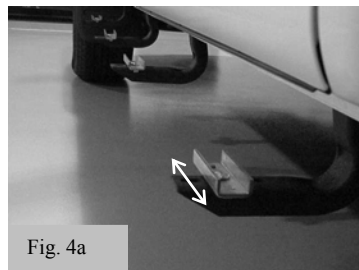
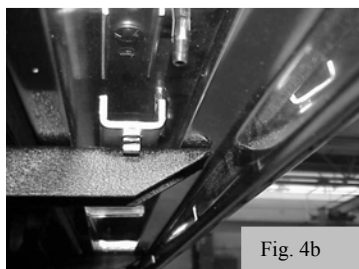

Fig. 4a
Fig. 4b
- (a) Lift and rotate the Pinch Clips 90 degrees so that they are perpendicular to the Brackets. (Figure 4a)
- (1) Left (Driver Side) Board is marked with an **Orange** sticker.
- (c) Carefully lower the board so that the Pinch Clips rest in the channel in the bottom of the Step Board. (Fig 4b)